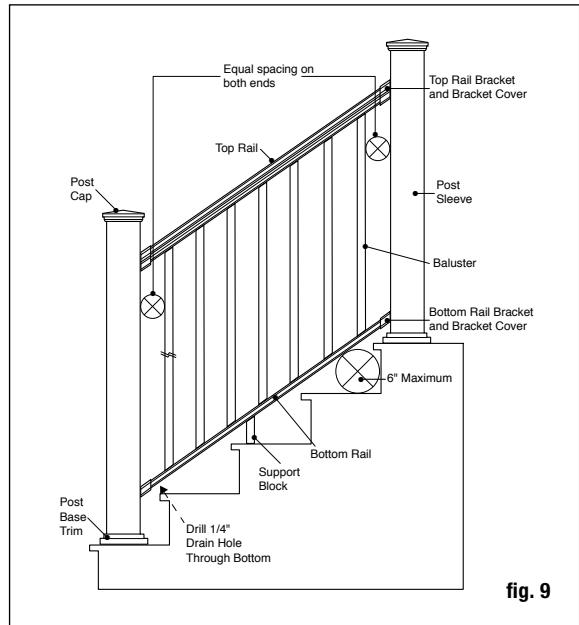
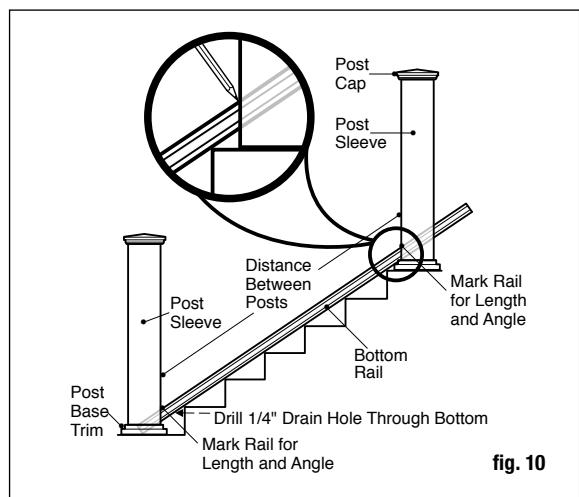

fig. 9
fig. 10
Step 6 Measure the distance between installed post sleeves to determine the length of the top and bottom rails. Place the bottom rail on the stair treads next to the posts and adjust so the distance between the first baluster hole and post is greater than 2-3/4" minimum and equal on both ends (fig. 9). Mark the rail to the proper length and angle. Cut the bottom rail. Cut the top rail to the same length and angle (fig. 10). **Drill one 1/4" drain hole through the bottom of the rail to prevent trapping water. Position the hole toward the lower end of the rail, roughly 2.5" from rail end to avoid the lower bracket.**
Step 7 Place the proper rail bracket covers and stair brackets on the ends of the bottom rail. Pay particular attention to the brackets being used as they differ based on top/bottom rail and up/down angle. Determine the position of the support block and attach to the bottom rail. Prop the bottom rail between the posts on the stair treads (fig. 10). You may need to place equal shims between two stair tread noses to elevate the bottom rail. Check for requirements in your area. Typically, a 6" sphere may not be allowed to pass through the triangle formed by the bottom rail, tread and riser (fig. 9). Center the stair bracket on the post. Using the stair bracket as a guide, mark the screw positions on the post sleeve and rail on both ends. Pre-drill 1/8" pilot holes through the post sleeve and rail. Attach the stair bracket to the post sleeve using the #8-15 x 2" - #2 square drive flat head screws and then attach stair bracket to rail using #8-16 x 3/4" - #1 square drive wafer head self-drilling screws.